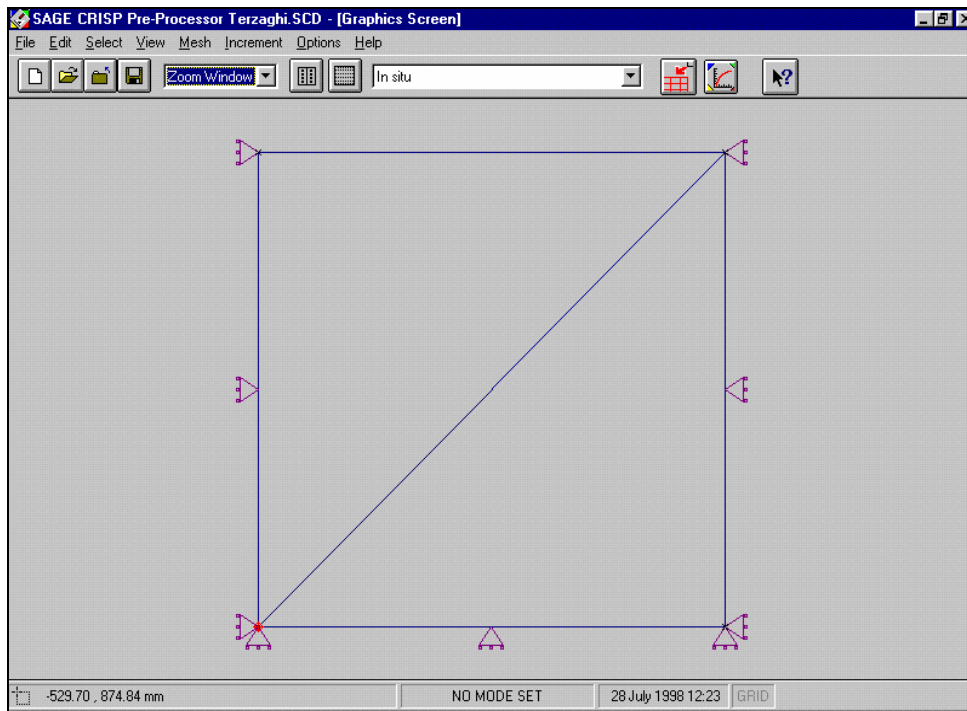
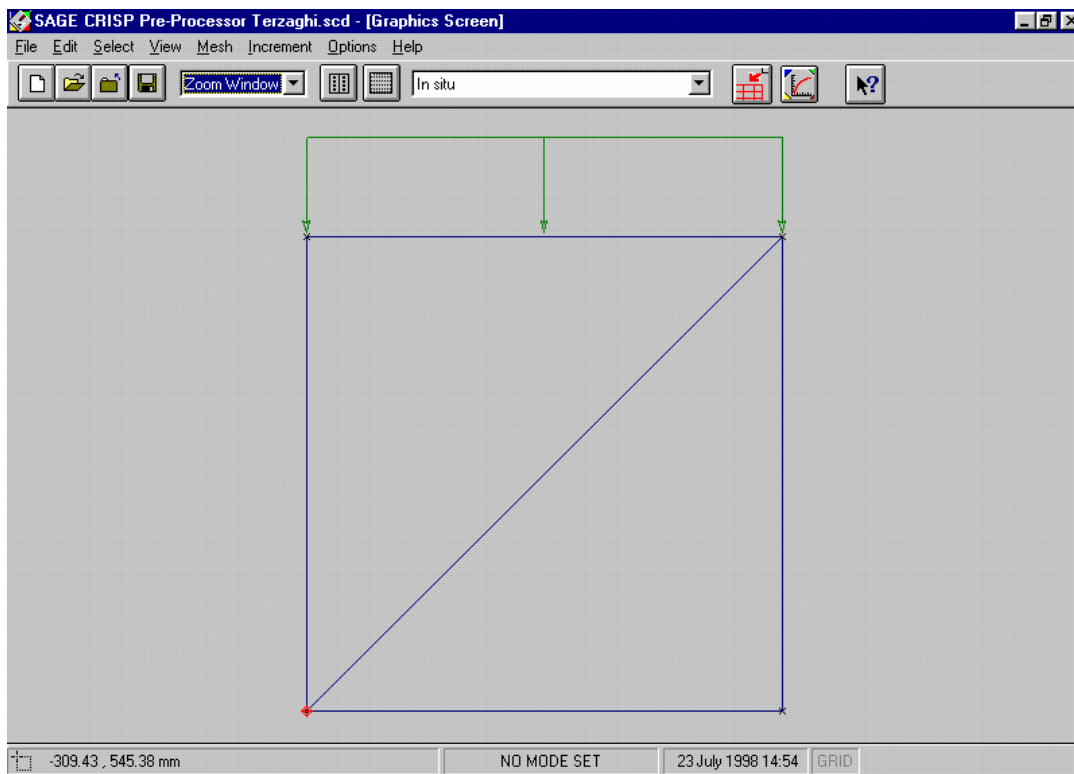

Figure 2-13: Displacement Fixities (at the In Situ Stage)
Figure 2-17: Loading Applied to the Top of the Sample
- Step 11** The Graphics Window should now look similar to Figure 2-13. Note that the display of fixity icons can be turned on and off by clicking on **Fixities** in the View menu and that their size can be controlled in the Default Settings dialogue box (accessed via the Options menu).
- Step 4** If your fixity icons do not look anything like those shown in Figure 2-13, try changing the size by altering the basic display size. Values of 10 and 1 (as shown in Figure 2-17) were used to produce Figure 2-13.
- Step 5** The Defaults dialogue box should look like Figure 2-17. Click on **OK** to exit once you have finished. The Graphics Window should look similar to Figure 2-17.